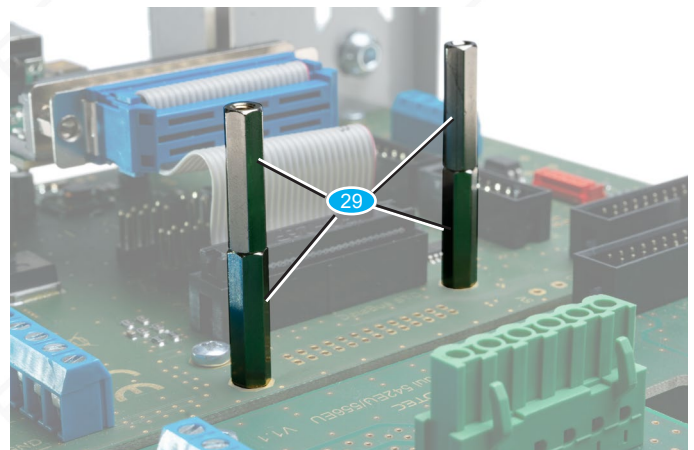

Fig. 13: Double spacers
- First, screw two more spacer nuts onto the still open spacer nuts on the C3 Bob (next to the drive module, see Fig. 13), so that the height is doubled.